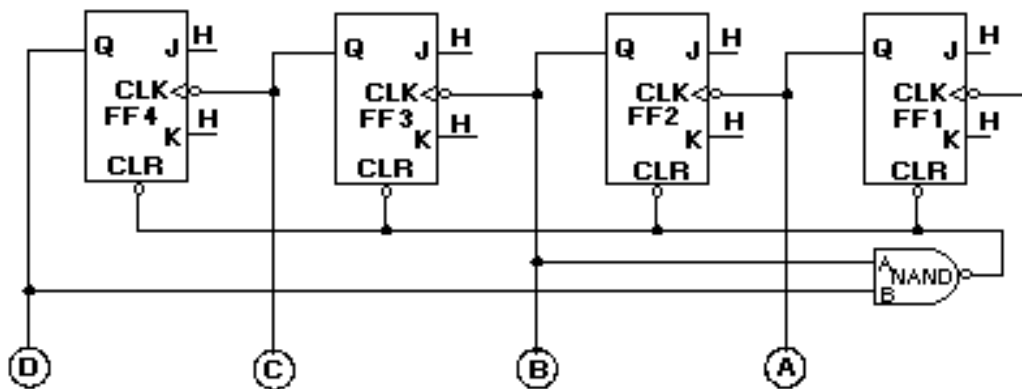

Figure 3-25. —Decade counter.
A decade counter is a binary counter that is designed to count to  $10_{10}$ , or  $1010_2$ . An ordinary four-stage counter can be easily modified to a decade counter by adding a NAND gate as shown in figure 3-25. Notice that FF2 and FF4 provide the inputs to the NAND gate. The NAND gate outputs are connected to the CLR input of each of the FFs.
*Q44. In figure 3-25, which two FFs must be HIGH to reset the counter?*